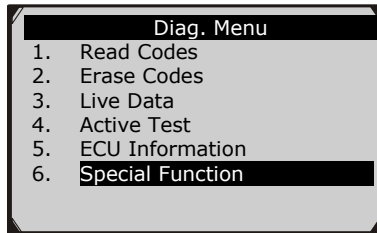

Figure 8.19
- 1) In the **Diag. Menu** (Figure 8.19), use the **UP/DOWN** button to select **Special Function** to do the ABS test. The scan tool displays as below.
- 1) In the **Diag. Menu** (Figure 8.19), use the **UP/DOWN** button to select **Active Test** to perform the actuator test. The scan tool displays as below.